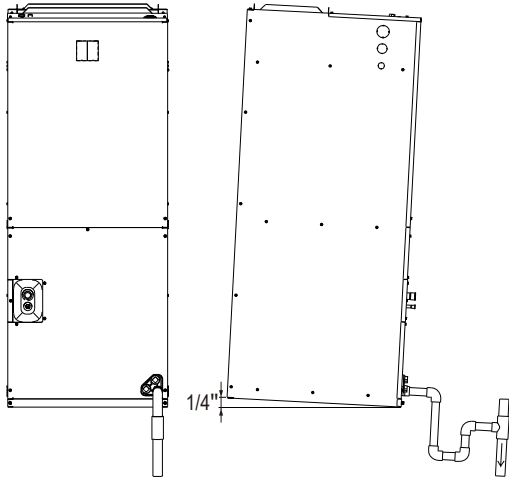
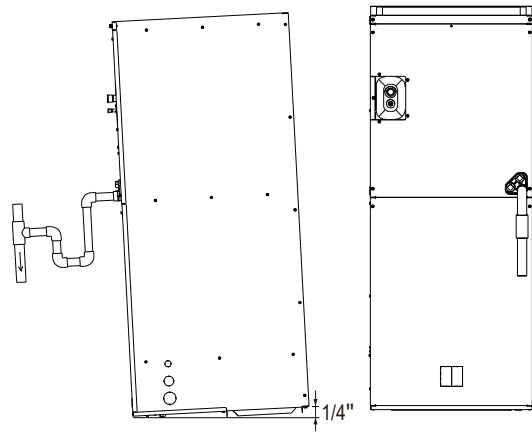

Fig.8-2 Vertically upflow view
Fig.8-3 Vertically downflow view
- Make sure unit is level or pitched slightly toward primary drain connection so that water will drain completely from the pan. Up to an additional 1/4" rise over the width or depth for the unit is allowed to create additional sloping towards the drain. Unit must be positioned between level and 1/4" rise, sloping toward the drain connections. See Fig.8-2, Fig.8-3, Fig.8-4, Fig.8-5.